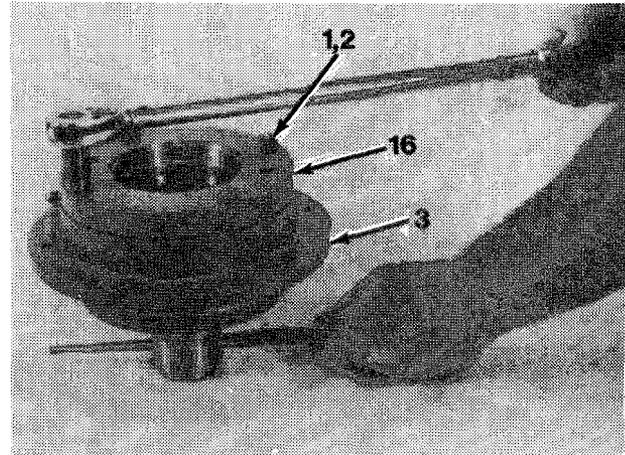

Figure 16-1
15. Install brake cylinder (16) over motor support (3).
16. Install four lockwashers (2) and capscrews (1, Figure 16-1).